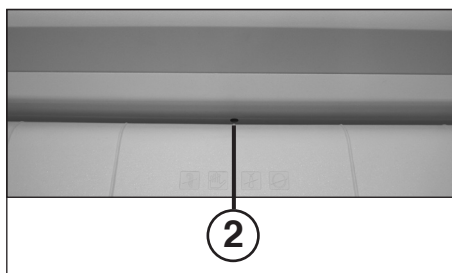

fig. 2
- 2 = Light barrier (forward operation) (fig. 2)**